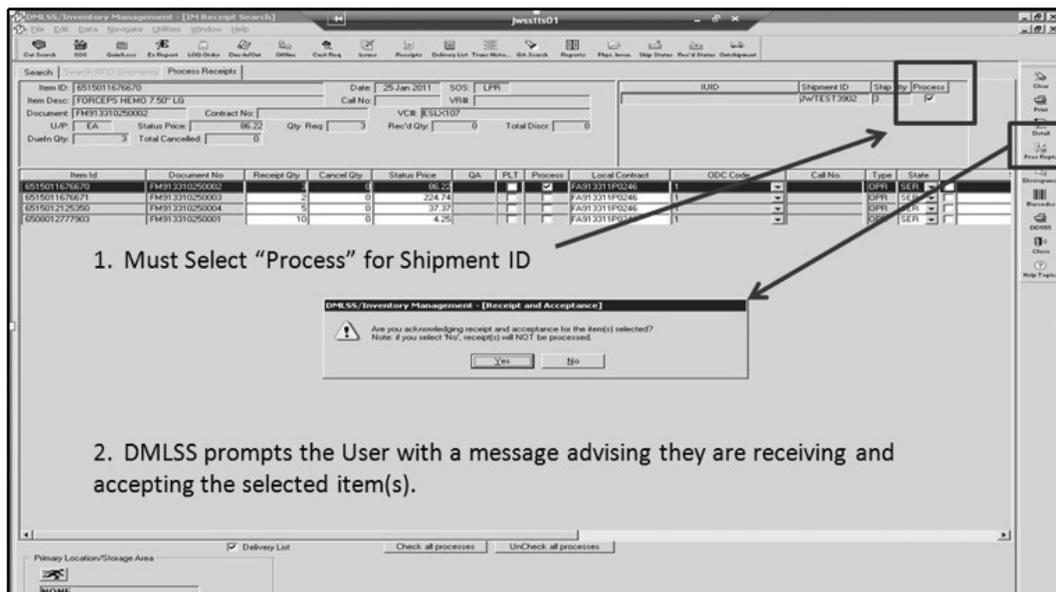

Figure 30. Inventory Management Receipt Search Window
2. Receipt Process is as follows: DMLSS displays shipment information such as shipment number and Item Unique Identification Data to allow the user to verify receipt of materiel. The user is required to select the “Process” box for applicable Shipment ID received. DMLSS displays a modal window asking “Are you acknowledging receipt and acceptance for the item(s) selected?” (Figure 30).